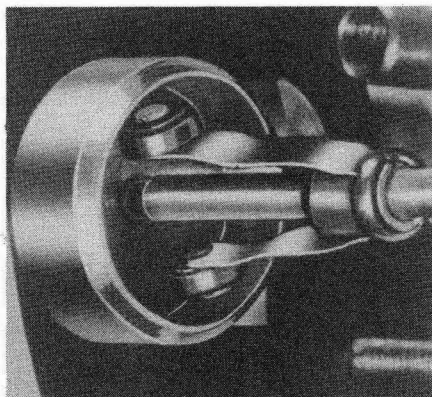

Fig. 10: Governor and Governor Cup
b. Governor Assembly and Governor Cup (figures 10 and 11). -- Attach governor cup by means of the governor